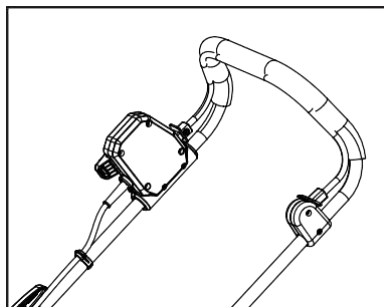

Fig. 3
3. Secure the power cable to the lawn mower using the cord clip (See Fig. 3).